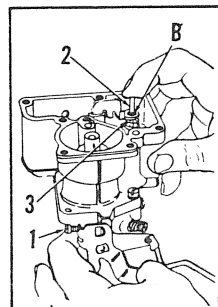

FIGURE 3
VI. PUMP LINK ADJUSTMENT. (See figure 3.)
Assemble carburetor as far as shown in figure 3. Back out the throttle stop screw (1) so throttle valve seats in throttle bore. Push down on diaphragm stem (2) so it bottoms in bowl. Now the shoulder "B" on diaphragm stem should be parallel to the top surface of pump lifter link (3). Bend the pump connector link at the lower angle only. Bending at other locations may cause the pump lifter link to bind. In servicing nonadjustable pump link carburetors; when the parallel setting cannot be arrived at through the above procedure, check parts for wear and distortion, and replace as required.
PUMP ADJ. Fig. 3